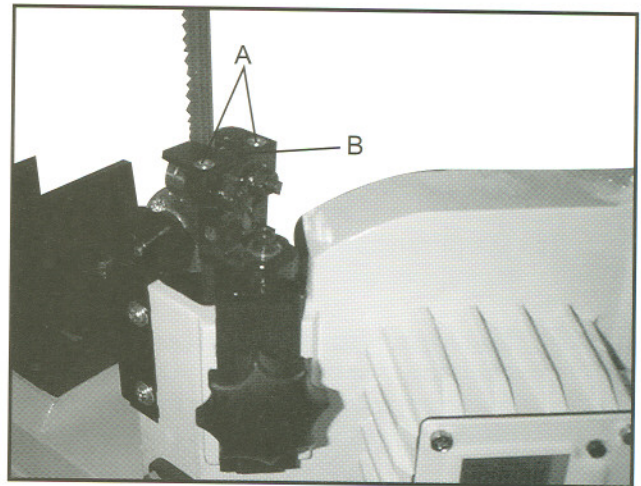

Fig. 3
- Remove two screws (A, Fig. 3) and remove the deflector plate (B, Fig. 3).